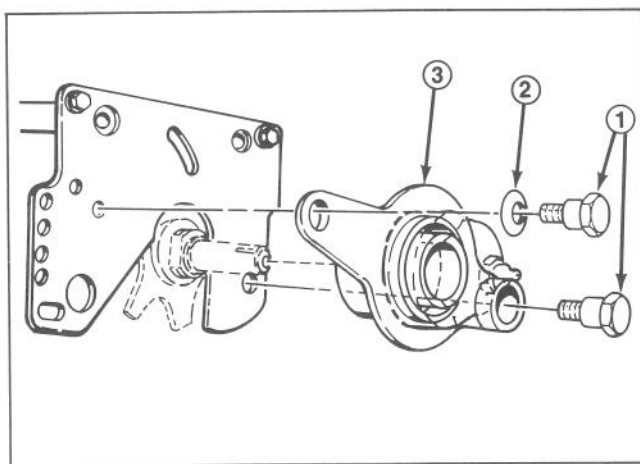

Figure 8
2. Remove (2) shoulder bolts, locknuts, and (1) belleville washer securing bearing housing to right side of unit. Slide bearing housing of reel shaft (Fig. 8).